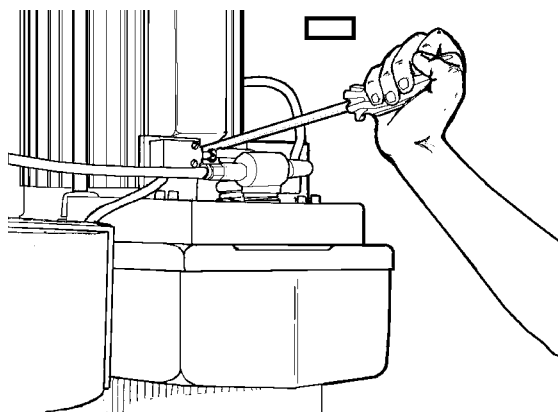

Fig. 6-12 VF-0 tool release piston adjustment.
7. Using the pipe as a lever, push down on the piston until it contacts the **draw bar** and the shim is held in place. For the VF-0: wedge a large, flat-tip screwdriver under the cooling fins of the motor and push the piston down (Fig. 6-12).